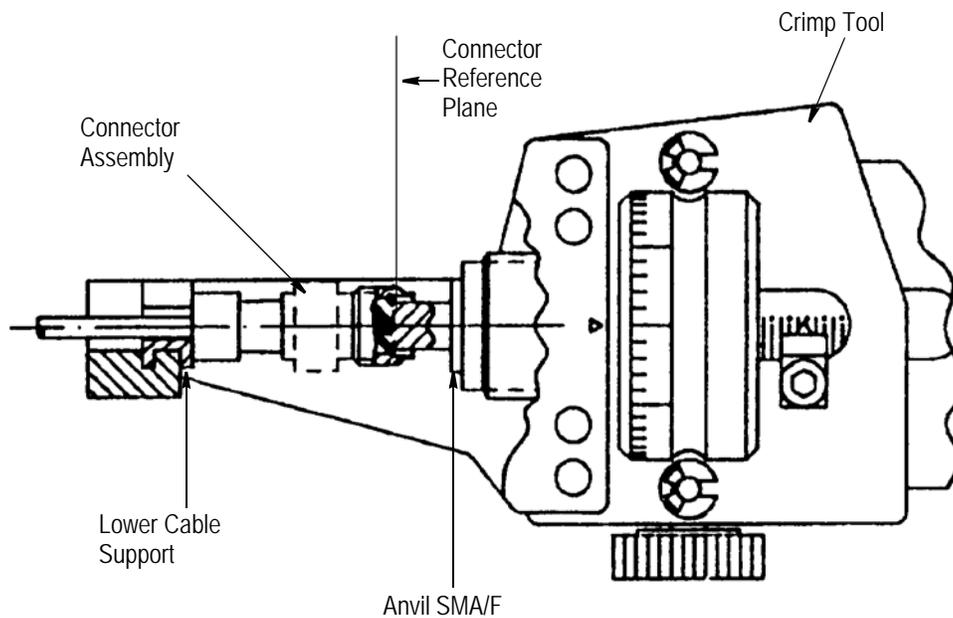

Figure 4
**3.3. Installing Cable into Connector Assembly (Figure 4)**